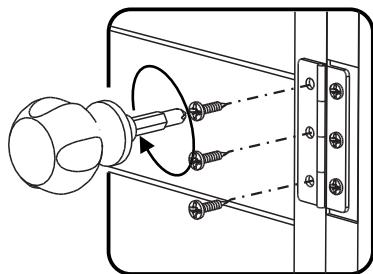

Figure 2
Attach Doors (M), (N), (O) and (P) to unit with Wood Screws for Hinge. (See Figure 2)